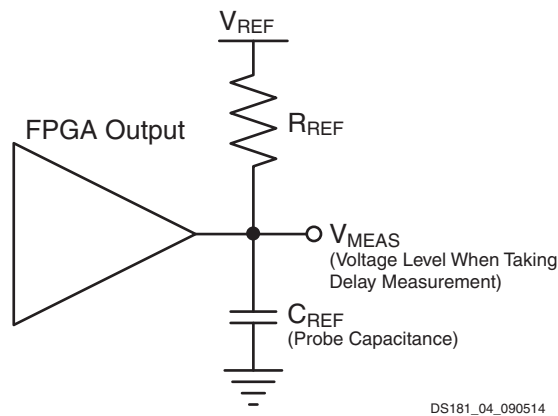
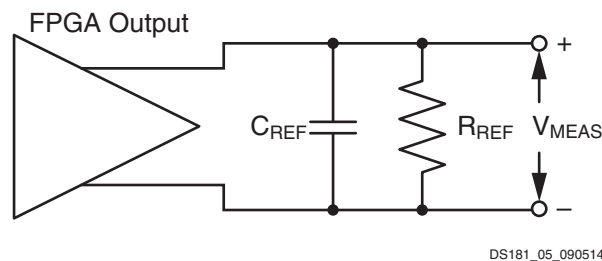

Figure 1: Single-Ended Test Setup
Figure 2: Differential Test Setup
5. This is an input voltage reference that bears no relation to the  $V_{REF} / V_{MEAS}$  parameters found in IBIS models and/or noted in Figure 1.
Output delays are measured with short output traces. Standard termination was used for all testing. The propagation delay of the trace is characterized separately and subtracted from the final measurement, and is therefore not included in the generalized test setups shown in Figure 1 and Figure 2.